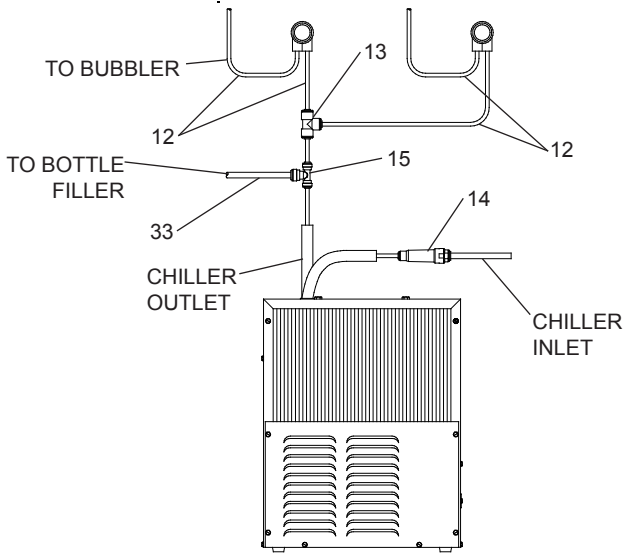

Figure 2 - EZWS-ERP Tube Routing
- 3a. (For EZWS-ERPBM28K) **Install** strainer on the input tube to the chiller (Fig 2).